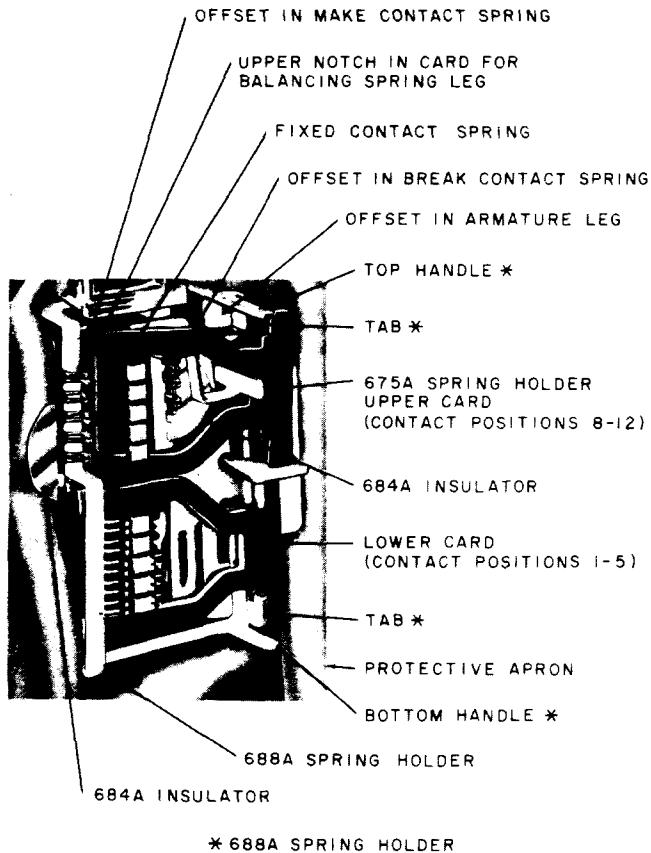

Fig. 3—688 Spring Holder Mounted on AK-Type Relay
lower card as covered in 3.16 if replacing contacts in positions 1 through 5. (See Fig. 3.)
(3) To disengage the inner balancing spring leg from the card, hold the orange stick in the right hand and insert it between the two cards so the end of the orange stick is against the front molded section. Rotate the orange stick to separate the cards. With a second orange stick, push down on the end of the balancing spring leg and disengage it from the notch in the card. After both legs of the balancing spring are disengaged, remove the blocking tool. Figure 3 shows the balancing spring legs disengaged from the upper card.
(1) Insert a 684A insulator to prevent shorting of the movable break contact springs with the contact cover spring or the core plate. To do this, hold the insulator with the offset end to the right and insert the other end between the comb and core plate so the insulator passes to the left of the contact cover spring. Push the insulator inward until the beginning of the offset touches the core plate. Moving the insulator laterally while inserting it may facilitate positioning. Make sure the insulator is positioned so it will insulate all the break contact springs. Figure 3 shows the insulator in position.
(1) If there is an AF-, AG-, AJ-, AK-, AL-, or AM-type relay mounted at the left, insert the 684A insulator to prevent shorting of the movable make contact springs against the core plate of the adjacent relay when these springs are held out of the comb grooves for replacement of contacts. If the relay is mounted adjacent to other apparatus against which the make contact springs may be shorted, insert a 684A insulator between the adjacent apparatus and one or both of the disengaged balancing spring legs as necessary.
(2) To insert a 684A insulator to prevent shorting of the make contact springs, proceed as follows. Using a KS-6320 orange stick, move the inner balancing spring leg to the right. Hold the insulator with the offset end to the left, and insert the other end between the balancing spring leg and the core plate of the adjacent relay. Release the balancing spring leg so it presses against the insulator. With the KS-8511 tweezers, position the insulator so it will insulate all make contact springs from the core plate. With the protective apron in place around the relay, the outer portion of the insulator should rest against the apron as shown in Fig. 3. Due to variations in positioning of the apron, it would be undesirable to rely on the apron to insulate the make contacts.
(1) On these relays, insert a 684A insulator, as covered in 3.17, to prevent shorting of the movable break contact springs with the contact cover spring or core plate during replacement of fixed contacts.
(2) After positioning the insulator as covered in (1), insert spring holders to hold the break contact springs away from the fixed contacts. The 675A spring holder is used for break contact springs in the upper half of the relay (positions 8 through 12) and the 675B spring holder for break contact springs in the lower half (positions 1 through 5). Each of the spring holders has five notches to engage the five pairs of break contact springs with which it may be used. It is important that the pairs of springs are engaged by the proper notches in the holder.
(3) To mount the 675A or B spring holder, proceed as follows. With the right hand, apply the KS-6320 orange stick to the right inner edge of the card and move the card as far to the right as possible. Holding the spring holder in the left hand, insert the notched section of the holder behind the break contacts. Release the card. Swing the handle of the spring holder to the right, and position the holder so each pair of break contact springs is engaged by the proper notch and the inner end of the handle is clipped in the core plate slot directly in front of the armature. Make sure the notched section of the holder is against the comb. Figure 3 shows the 675A spring holder in position in the upper half of the relay.
(4) With the right hand, apply the KS-6320 orange stick to the right side of the card and move the card as far to the left as possible. With the other hand, hold spring holder by the bottom handle and insert the notched section of the holder between the make contacts so that it touches the card. Swing the handle of the holder to the right, and position the notched section behind the make contacts. Release the card. Then, using both hands, grasp the top and bottom handles of the spring holder. Position the holder so its tab is adjacent and in front of the card, and the pairs of make contact springs are engaged in the proper notches. Then, with the springs in the notches, move the holder to the left, and position it so each tab rests against the left side of the adjacent armature leg. Make sure the notched section of the holder is against the offset in the make contact springs, and the inner edge of each tab is against the offset in the armature legs.
(5) Apply the orange stick to the right side of the outer leg of the armature behind the notch for the card, and hold the armature in the unoperated position. Grasp the upper section of the card with the tweezers, and move the card to the right and back so the card is in line with the notch in each armature leg. Then remove the orange stick from the armature, and guide the card in the notches. Figure 3 shows the 688A spring holder position.